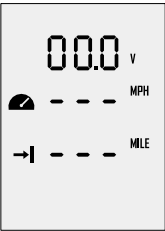

Figure 4-9
**Step1:** With the unit powered on, press and hold the “**M**” button for 2 seconds to enter the preferences page, as shown in Figure 4-9. Users can select display items based on personal needs and preferences.